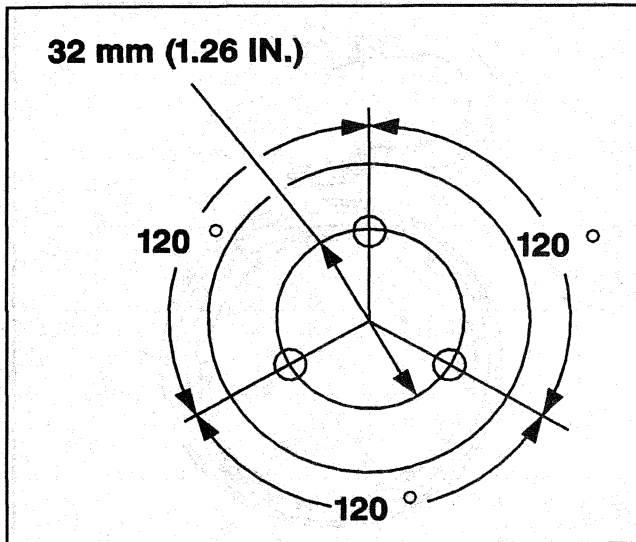

Figure 11—Tool for Removing Center Support Bearing (Top View)
- Center support bearing (32) from the driveshaft (31) using a locally fabricated tool as shown in Figures 11 through 13. With the driveshaft in a suitable support fixture, place the tool bolt ends through the access holes in the wide end of the driveshaft. Squarely press the bearing off of the surface on the center shaft.